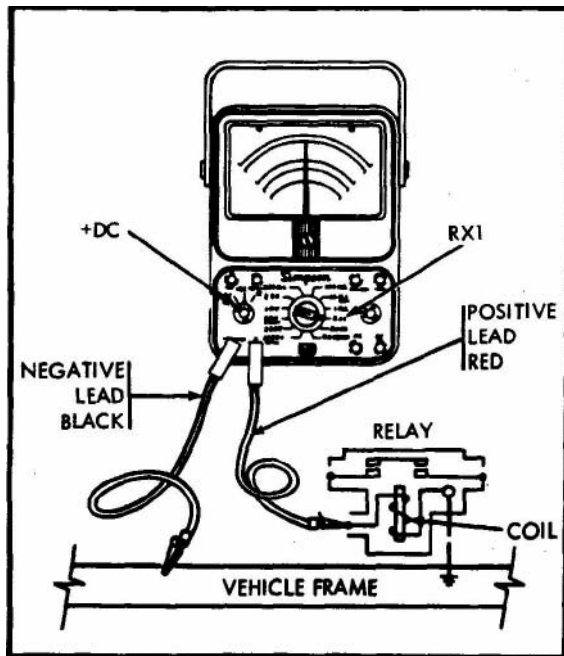

Figure 2-16. Resistance test with **multimeter**.
(2) Rotate the range selector switch to the required range to (1) R X 1 to measure resistance between 0 and 2,000 ohms and to test for continuity, (2) R X 100 to measure resistance between 0 and 200,000 ohms, and (3) R X 10,000 to measure resistance between 0 and 20 **megohms** (megohms ohms).
(3) Plug the black lead into the jack marked COMMON and the red lead into the jack marked "+." Touch the ends of the leads together and turn the ZERO OHMS knob until the pointer is at zero.
(4) Separate the ends of the test leads, and clip the leads across the portion of the circuit or component being tested (figs 2-16 and 2-17). (Either of